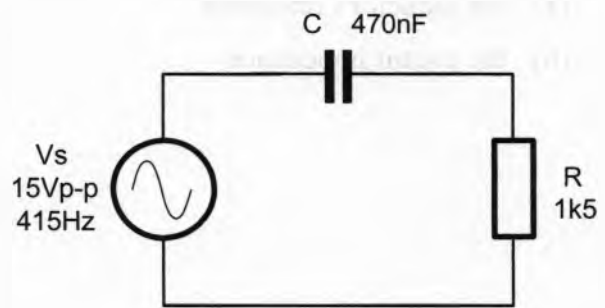

Figure 5
16. For the circuit of Figure 5, calculate:
17. Draw the impedance triangle for the circuit of Figure 5 at the frequency given.